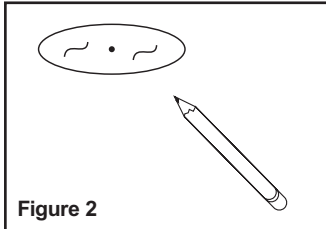

Figure 2
**Step 1.** Locate center of proposed opening on ceiling and use template to mark and accurately cut a 4-3/8" opening. (Fig. 2)